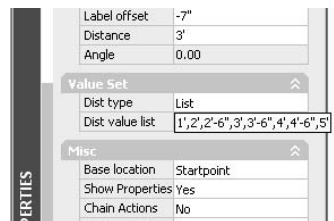

FIGURE C.9: The full list of incremental widths displayed
3. Place the arrow cursor on the list. AutoCAD displays the complete list of incremental widths, and 5' is the largest (see Figure C.9).